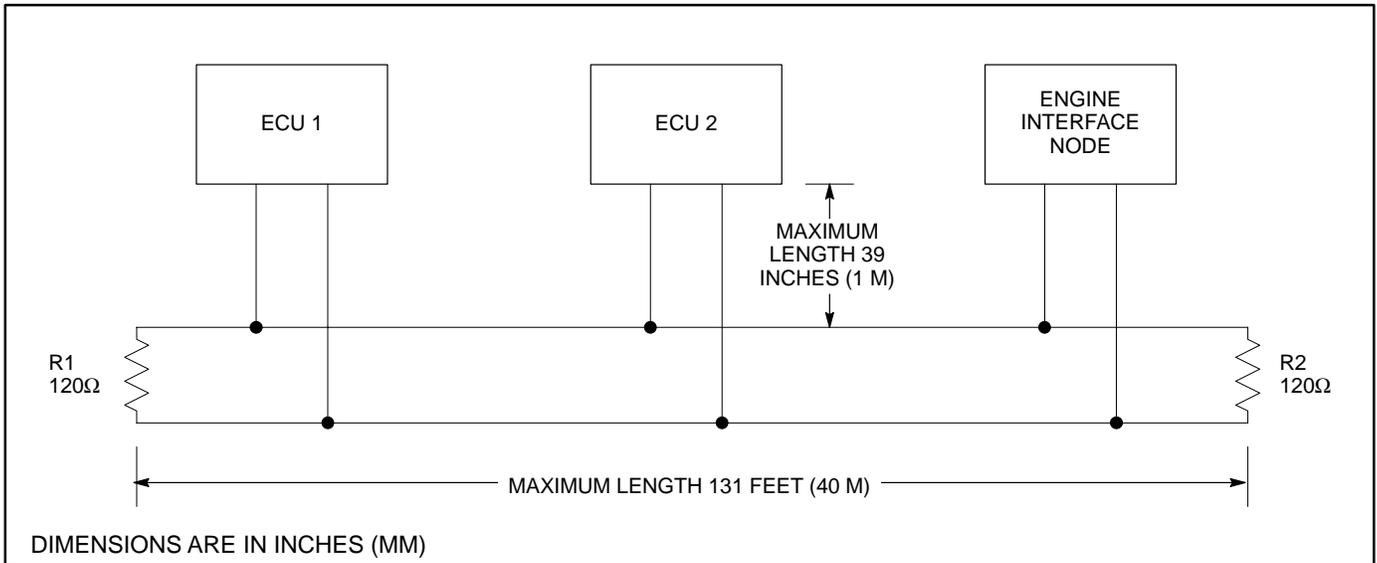

FIGURE 10-3. J1939 BACKBONE
5. Connect the CAN Node (J10 3-pin connector) to the J1939 backbone (see Figure 10-3) of the coach engine (see Appendix A).
The CAN J1939 network uses a multidrop bus topology (see Figure 10-3). This topology requires that there be only two ends to the network. Stubs off the network bus can be no longer than 39 inches (1